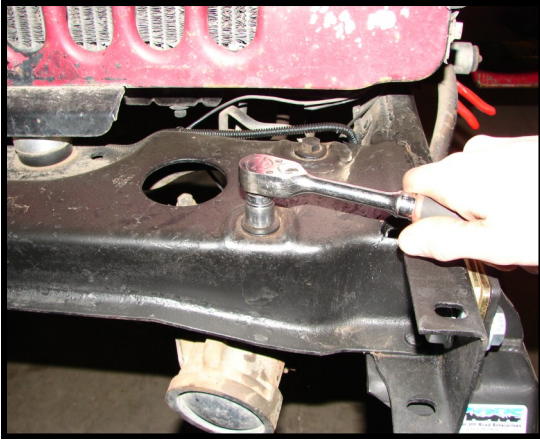

FIGURE 1
**STEP 1:** If your Jeep® is equipped with a winch, remove it's mounting plate from the side plates. Remove the side plates from the frame. Remove the front bumper. Loosen but do not remove the two top bolts in the front frame crossmember that attach the steering box mounts to the crossmember. See figure 1.